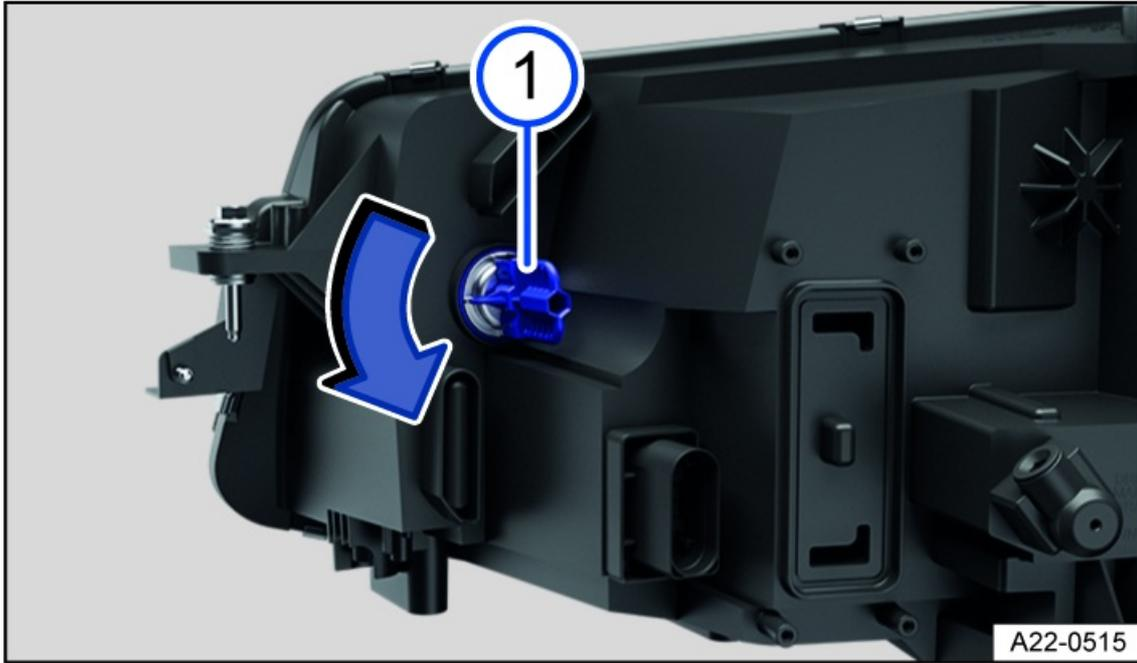

Fig. 149 In the right-side of the engine compartment: Rear side of the headlights.
① Turn signal bulb holder.
1. To remove, turn the bulb holder in the direction of the arrow *fig. 149* ①.
3. Carefully insert the bulb holder into the headlight and turn in the opposite direction to the arrow *fig. 149* ①.